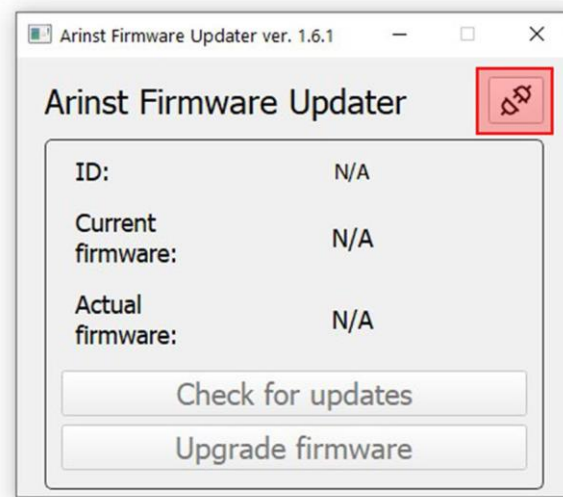

Figure A2.1 - Connecting the device to a PC
2.3. Press the button ² to connect the device to your PC (Figure A2.1).